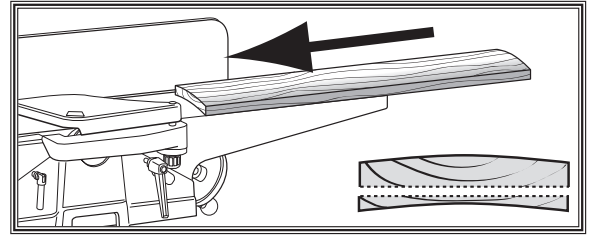

Figure 30. Surface plane on the jointer.
1. **Surface Plane on the Jointer:** The concave face of the workpiece is surface planed flat with the jointer (Figure 30).